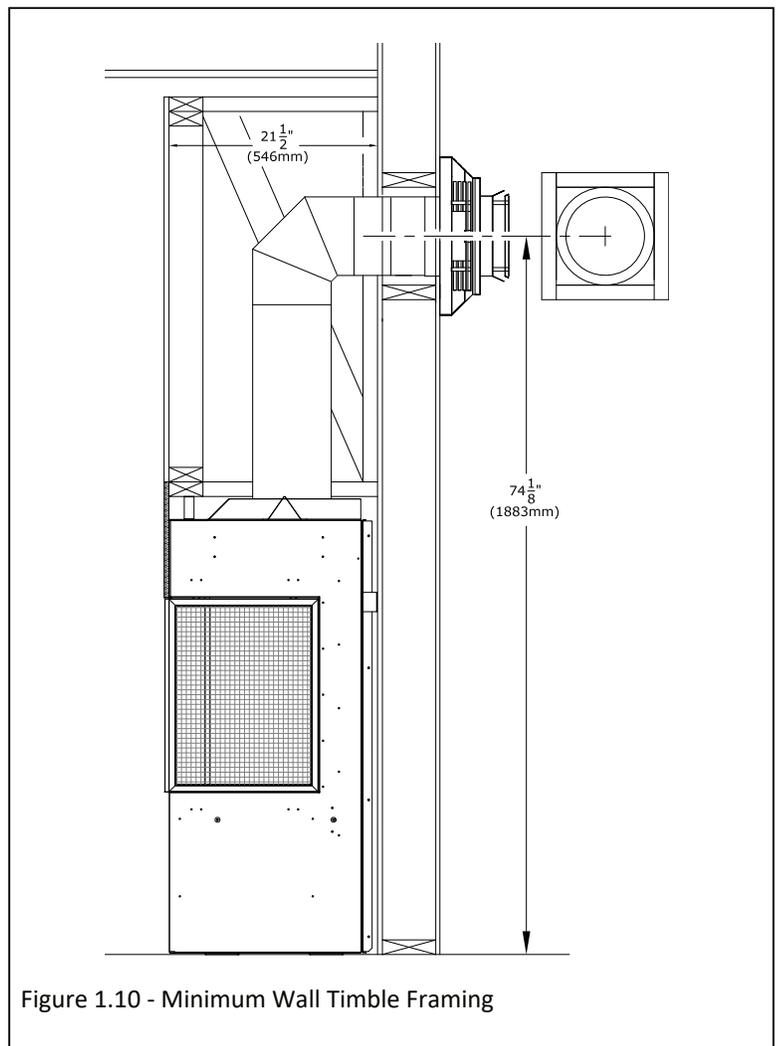

Figure 1.10 - Minimum Wall Thimble Framing
- Follow Figure 1.10 for minimum rough-in dimensions.
1. Measure from floor level of the fireplace to the center of where the vent pipe will penetrate the wall. The dimension in Figure 1.10 is used with a Simpson DuraVent vent pipe.